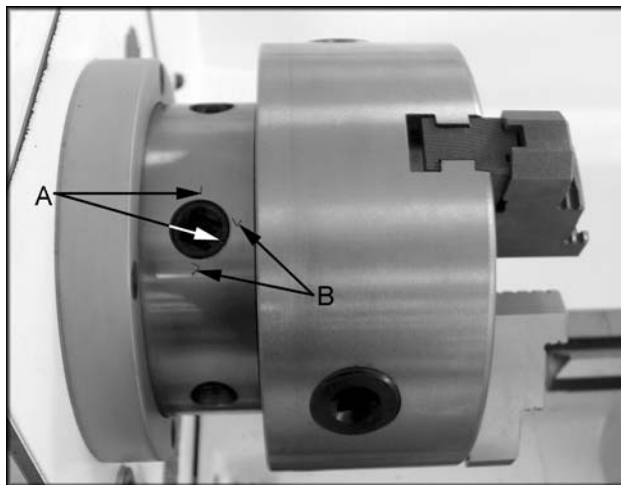

Fig. 2
1. Support the chuck while turning three camlocks 1/4 turn counter-clockwise with the chuck key enclosed in the toolbox. Figure 2 shows the cam in the secure position. Line up the two marks (A, Fig. 2) for removal
5. Lift the chuck up to the spindle nose and press onto the spindle. Tighten in place by turning the cam locks 1/4 turn clockwise. The index mark (A, Fig. 2) on the camlock should be between the two indicator arrows (B, Fig. 2). If the index mark is not between the two arrows, remove the chuck and adjust the camlock studs by either turning out one full turn (if cams will not engage) or turning in one full turn (if cams turn beyond indicator marks).